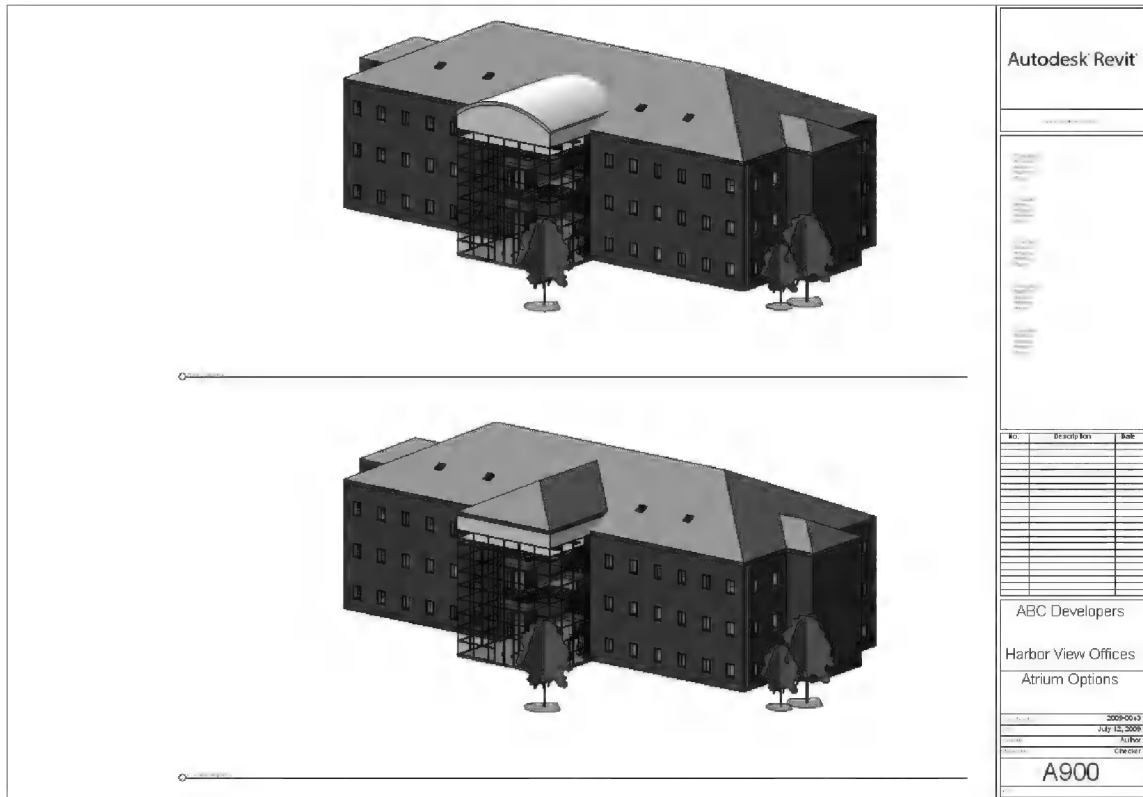

FIGURE 14-1.16 Atrium Options Sheet; two views with Design Options added
35. Place the two views, mentioned above, on sheet A900. (See Figure 14-1.16.)